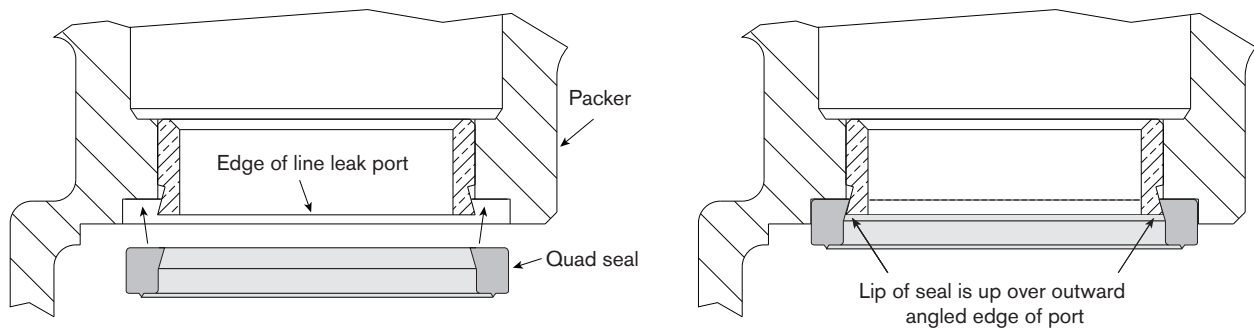

Figure 34. Installing New Quad Seal
11. Lubricate the quad seal with petroleum jelly and install it into the base of the packer's line leak port. The seal's retaining lip fits over the outward angled edge of the port as shown in Figure 34.